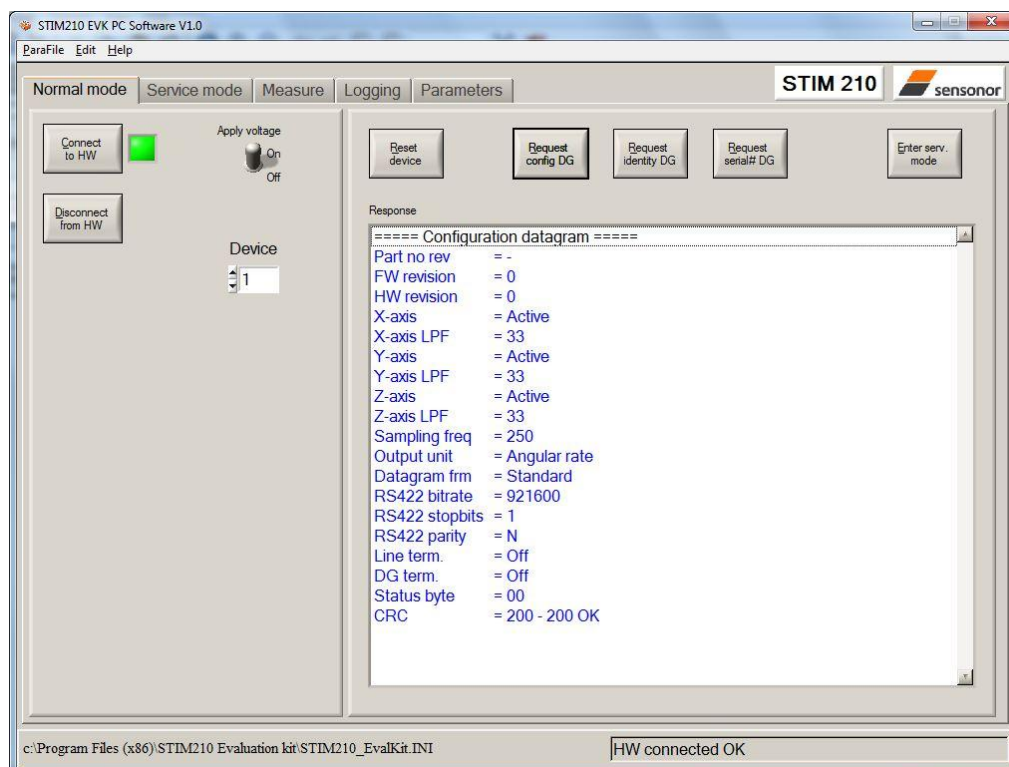

Figure 26: Result of sending 'Request config DG' to STIM210
- The kit is now ready for use, and the connection and the module communication could be checked by e.g. pressing the 'Request config DG' button. An example of such result is shown below (in blue text in Figure 26)